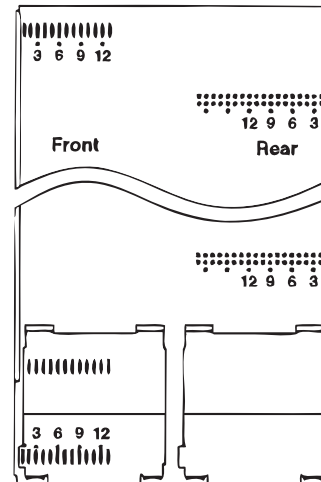

Figure 2.2
See Figure 2.2 for proper positions for each package type.
*NOTE: Since new packages are constantly being introduced, the listing in Figure 2.2 does not contain ALL vendible packages. For the latest information on packages that will vend in the G-III, please contact Royal Vendors' Customer Service department.*
**1. Determine Correct Position for Package Type (See Figure 2.2).**
Use Figure 2.2 to determine the proper position for the package type to be vended.
Check Figure 2.2 for the correct retainer position.